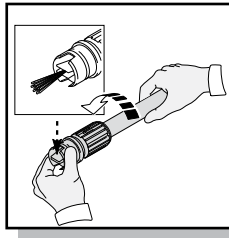

Fig. 19
- Take off the adjustable lance. Rotate the nozzle on the adjustable lance to the narrow stream setting which opens up the fan blades (Fig. 19).